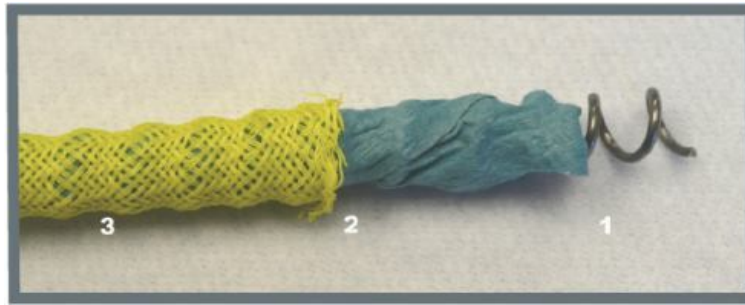

Figure 2. INJECTO®Tube Construction
A high strength spiral wire coil (1) prevents collapse during concrete placement, while the non-woven filter membrane (2) prevents the tube from being clogged with concrete particles. A bright yellow reinforced mesh sleeve (3) protects the tube and allows for easy inspection before the pour. Wherever old to new concrete surfaces join, the INJECTO® system can be easily installed (see Figure 2).